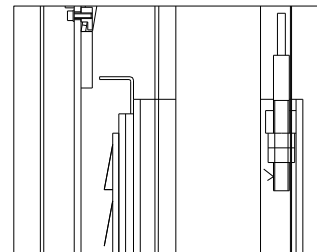

Fig.18
5. Keep both cables in balance during raising or lowering (Fig.18).